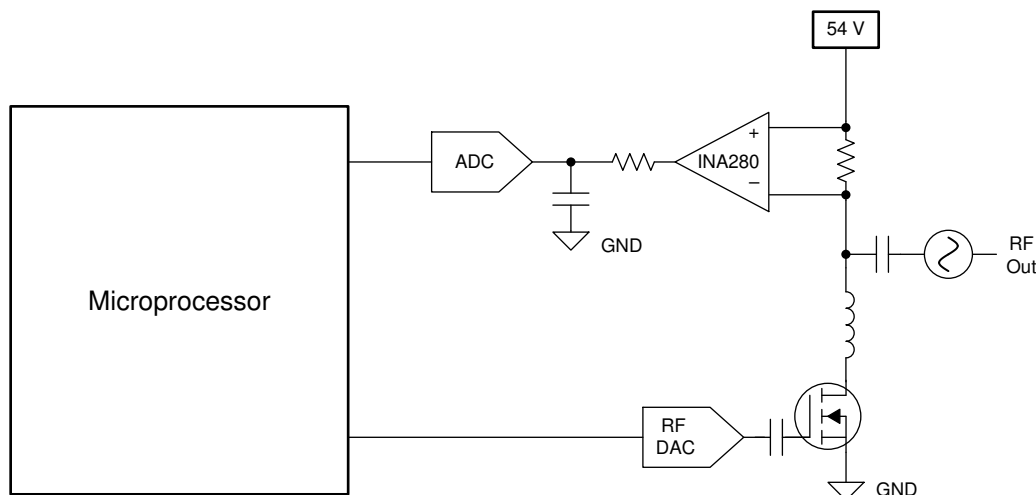

Figure 8-2. Current Sensing in a PA Application
The INA280 is a unidirectional, current-sense amplifier capable of measuring currents through a resistive shunt with shunt common-mode voltages from 2.7 V to 120 V. The circuit configuration for monitoring current in a high-side radio frequency (RF) power amplifier (PA) application is shown in Figure 8-2.